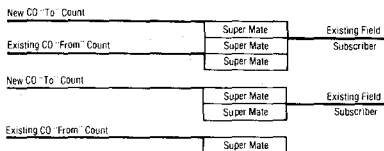

Fig. 15—One Way Pluggable Connection
a. This combination connects two conductor groups pluggable one way, the body bottom of the Super Mate Module to the body top of the Super Mini Module. Conductors can be either terminated in the body bottom or body top of the Super Mini Module. See Figure 15.